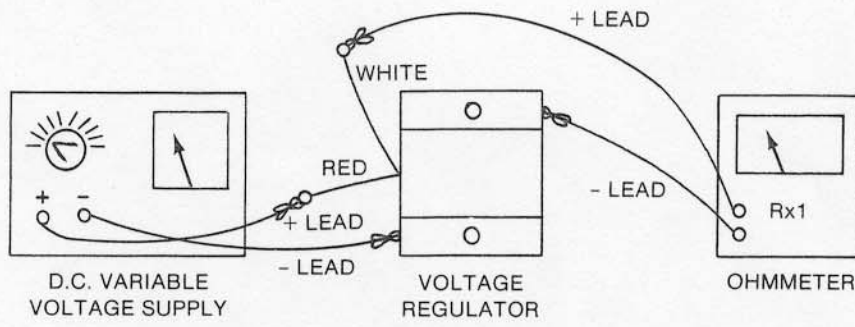

Figure 3. Checking Voltage Regulation Point - Air Cooled Regulator
2. Check voltage regulation point using a D.C. variable voltage supply and ohmmeter (Figure 3). Connect voltage supply positive (+) lead to regulator red lead and voltage supply negative (-) lead to ground on regulator case. Connect ohmmeter positive (+) lead to regulator white lead and ohmmeter negative (-) lead to ground on regulator case. Slowly increase voltage while observing ohmmeter. Meter must show conduction when voltage reaches 14.5 volts ($\pm 0.5v$). If meter shows conduction before voltage reaches 14 volts, regulation point is too low and voltage regulator must be replaced. If meter does not show conduction until voltage exceeds 15 volts, regulation point is too high and voltage regulator must be replaced.